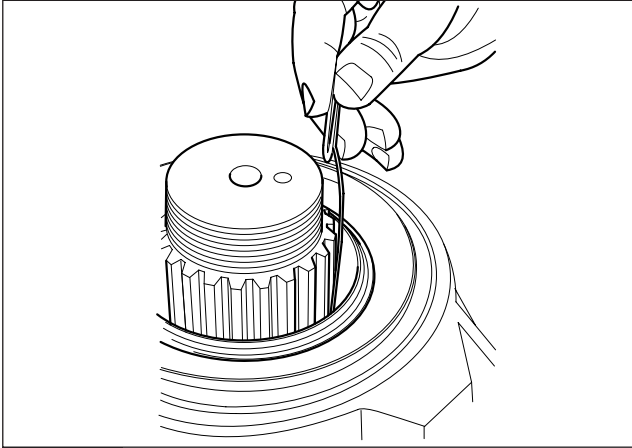

Fig. 2.67
8. Check seal spring has remained in position. (Fig. 2.67)